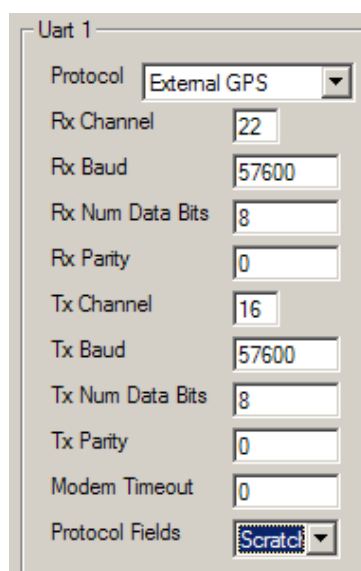

Figure 3 - Comms Tab Uart Configuration
1. Open the .vrs file with the VRS Editor and select the Comms tab. See Figure 3 - Comms Tab Uart Configuration.